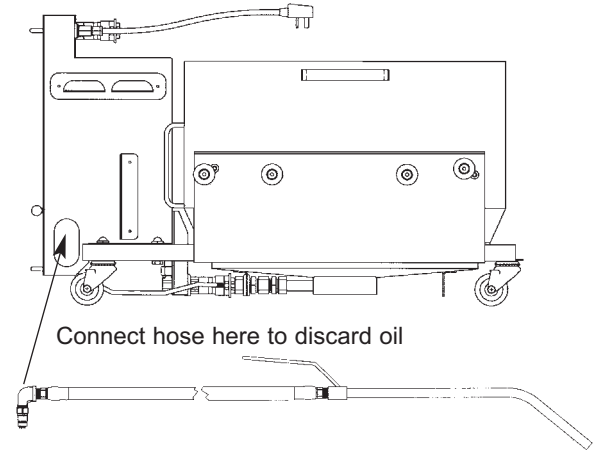

FIGURE 8.
3. Connect the hose to the right side of the filter assembly in the front. See Figure 8.